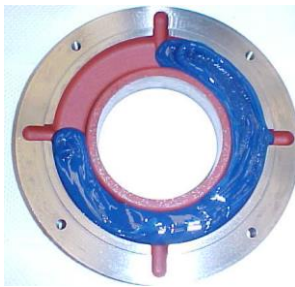

Figure 7.4: Outer bearing cap
- Fill up to ¾ of the inner and outer bearing cap deposits with the recommended grease (Figure 7.4) and lubricate the rolling bearing with enough grease before assembling it;
When the bearing is opened, inject the new grease through the grease nipple to expel the old grease found in the grease inlet tube, and apply the new grease in the rolling bearing, to the inner and outer rings, filling 3/4 of the empty spaces, as shown in Figure 7.4. In case of double bearings (ball bearing + roller bearing), also fill 3/4 of the empty spaces between the intermediate rings. Never clean the rolling bearing with cotton-based cloths, because they leave some lint, working as solid particles.